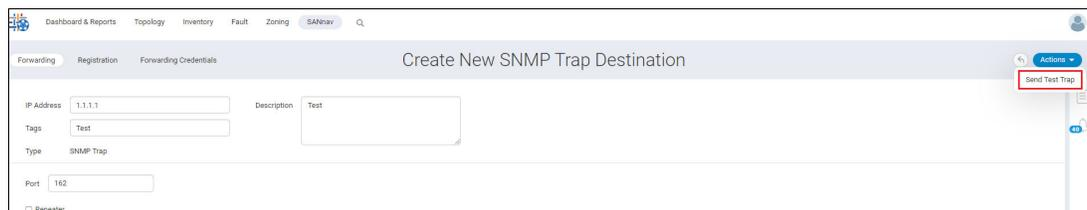

Figure 5-161 Send Test Trap
14. After entering the SNMP trap forwarding destination details, you can click **Actions** at the upper right of the Create New SNMP Trap Destination window to send a test trap (Figure 5-161). The IP address and destination port are mandatory for sending a test trap. If any of them are not entered or are invalid, an error message shows: